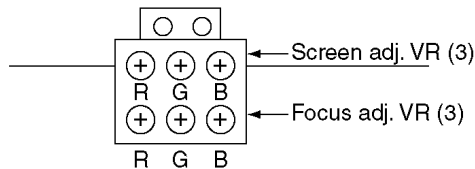

Fig. 2
7. Adjust the Red, Blue and Green focus VR on the focus block for best focus of overall picture of each CRT. (Fig. 2)
The electrical focus controls are located on the front. Adjust the Green Focus VR for best focus of overall picture. (Fig. 2)